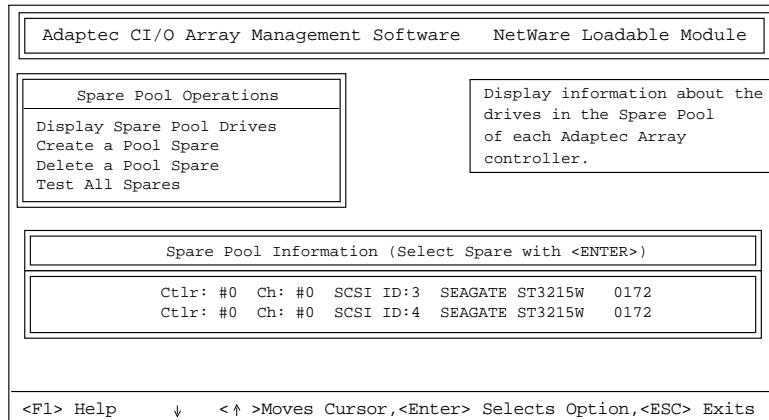

Figure 3-9. Spare Pool Information Screen
- 2 Select **Display Spare Pool Drives** from the Spare Pool Operations menu. A screen similar to Figure 3-9 appears.